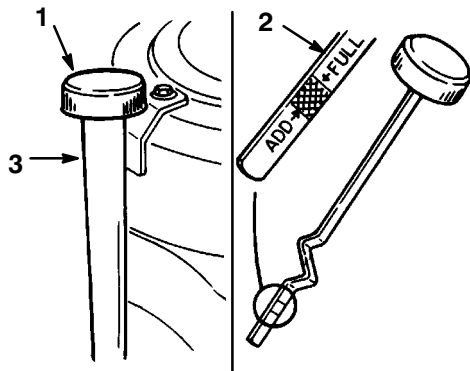

Figure 13
3. Clean around the oil dipstick (Fig. 13) so dirt cannot fall into the filler hole and damage the engine.
4. Unscrew the oil dipstick and wipe the metal end clean (Fig. 13).
5. Screw the oil dipstick fully onto the filler tube (Fig. 13). Unscrew the dipstick again and look at the metal end. If the oil level is low, slowly pour only enough oil into the filler tube to raise the level to the Full mark.
6. Slowly pour approximately 80% of the specified amount of oil into the filler tube (Fig. 13). Check the oil level; refer to Checking the Oil Level, page 20, steps 4-5.